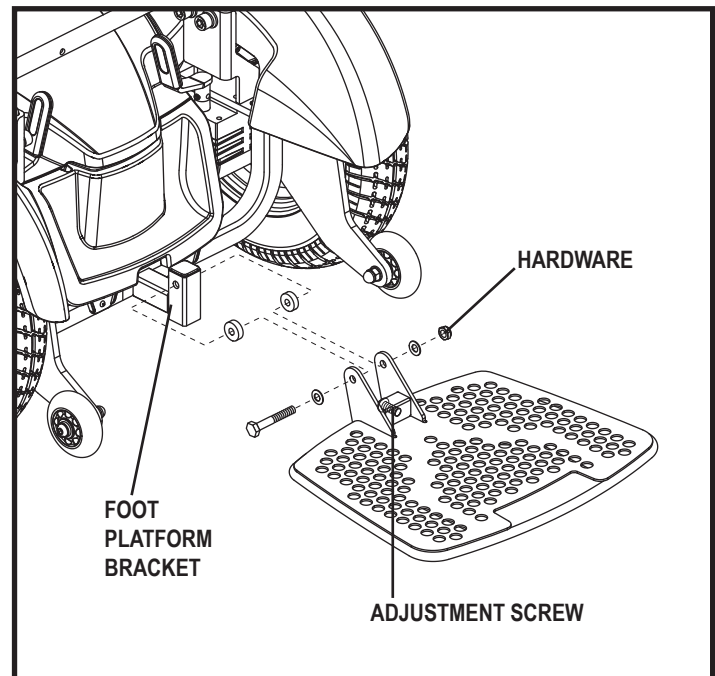

Figure 12. Foot Platform Angle Adjustment
1. Flip up the foot platform and locate the angle adjustment screw. **See figure 12.**